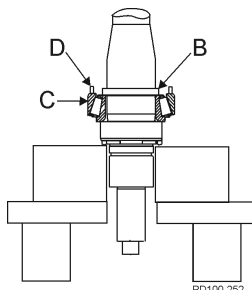

Figure 47 - Install Inner & Outer Spacer and Lower Cup
4. Place the inner spacer (Figure 47, item B) over the shaft onto the lower cone and roller assembly.